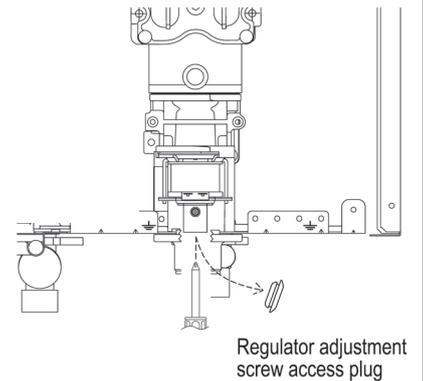

Fig. 4
12. Remove rubber access plug and adjust the regulator screw on the modulating valve (Fig.4) as required to the pressure above. Replace rubber access plug and seal it shut.